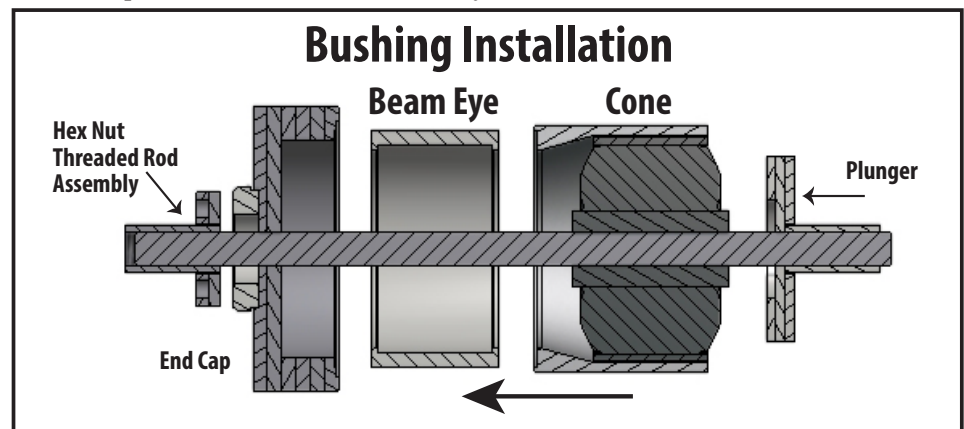

Figure 2.
4. Assemble bushing replacement tool and place on the beam eye (Figure 2).